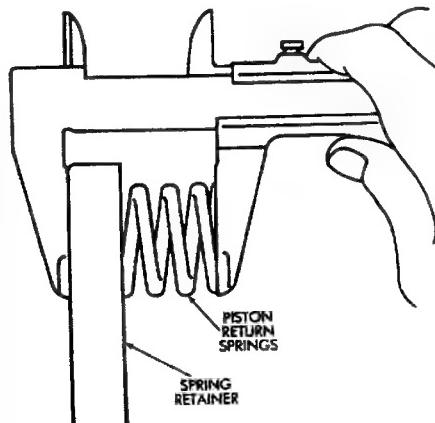

Fig. 11 Checking Return Spring Length
(19) Measure free length of piston return springs with springs mounted in retainer (Fig. 11). Length should be 19.47 mm (.767 in). Replace springs and retainer if length is incorrect.